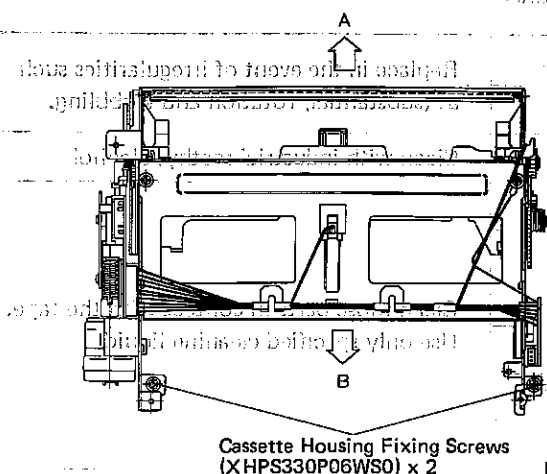

Figure 5.
4. Slide the cassette housing in the direction of arrow A (in Fig. 5) and lift straight up to remove.
2. Insert the catch of the cassette housing in the mechanical chassis B and slide in the direction of the arrow B (in Fig. 5) to fix temporarily.